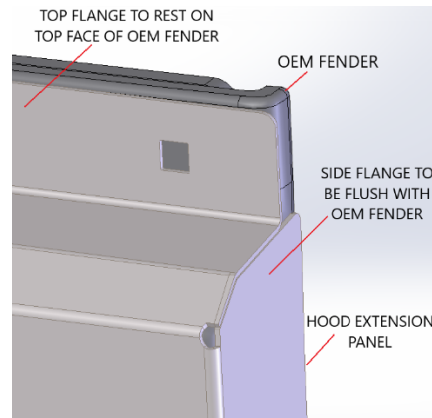

Figure 2 – Proper Positioning of Hood Extension Panel
- b. See Figure 2 for proper positioning of the hood extension panel when installed.